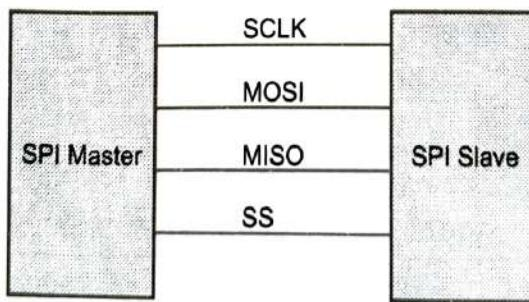

Fig. 6.3.1 : SPI
- Fig. 6.3.1 shows SPI system. SPI bus is composed by four signals, namely the Master Out Slave In (MOSI), Master In Slave Out (MISO), serial clock (SCK) and active low slave select (\SS).